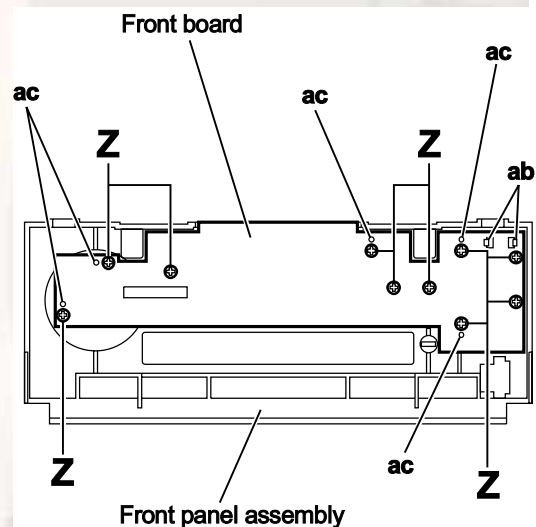

Fig.25
- From the inside of the front panel assembly, remove the ten screws **Z** attaching the front board. (See Fig.25.)
- Release the two claws **ab** of the indicator attaching the front board and take out the front board from the front panel assembly. (See Fig.25.)
When attaching the front board, attach the screws **Z** after fitting the holes of the front board to the projections **ac** of the front panel assembly. (See Fig.25.)